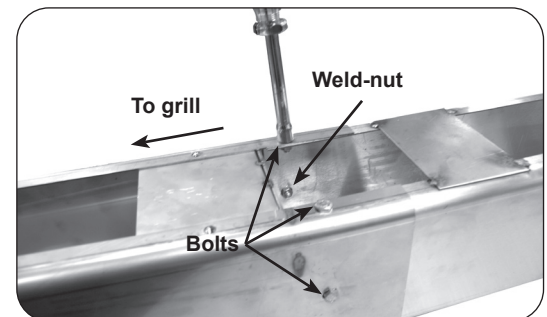

Fig. 25-2 Fasten extension to post
2. From outside the joined post and extension, insert one of the $\frac{1}{4}$ X 20"-5/8 bolts (supplied) into each of the five (5) bolt holes and tighten each using a $\frac{7}{16}$ " socket driver or wrench (see Fig. 25-2).